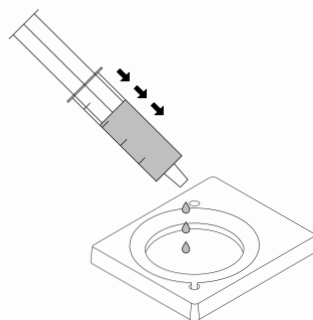

Figure 3. Cover the membrane surface with 2.5 mL sperm wash solution.
6. Prepare a fresh syringe with 2.5 mL of sperm wash solution. Cover the entire upper collection chamber. Ensure an uninterrupted flow of media over the membrane and the outlet port (Figure 3).